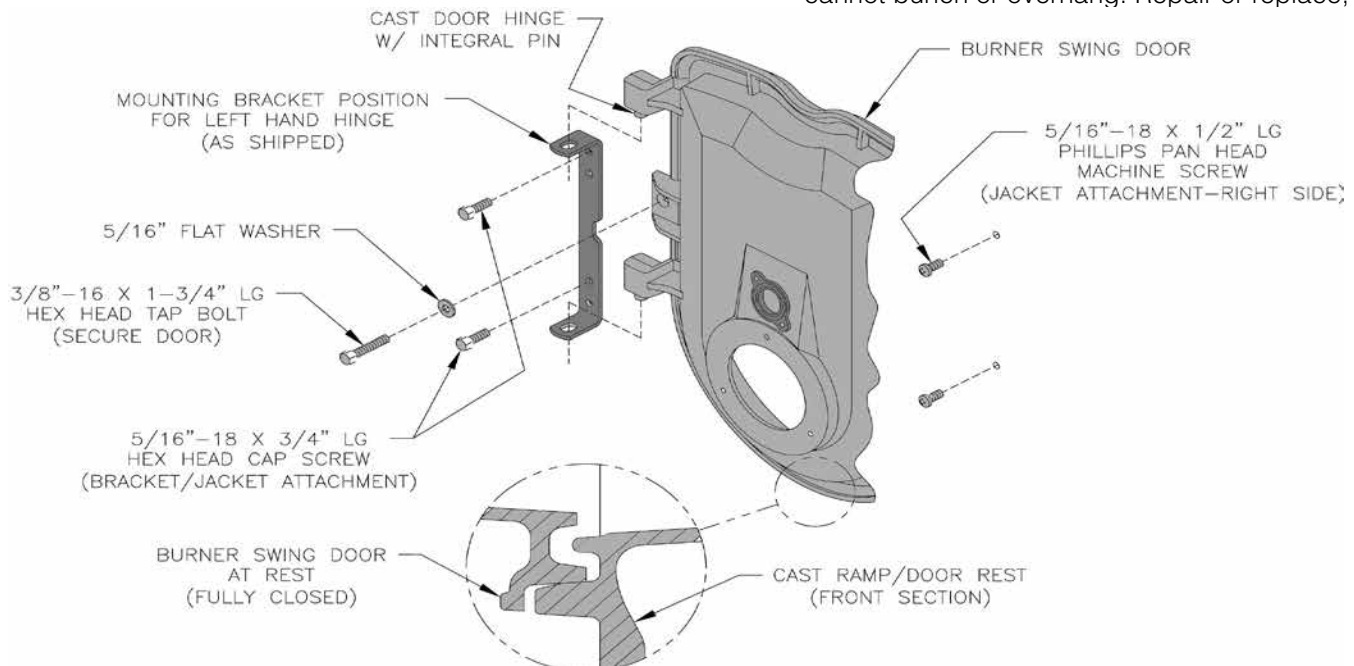

Figure 5A: Partial Front View - Burner Swing Door Mounted to Boiler - Fully Closed and Secured
Throughout this manual you will be instructed to open and close Burner Swing Door for various reasons. There is a proper and improper method of closing and securing the door opened for front jacket panel installation, inspection, cleaning or field service. Refer to Figures 5A, 5B, 5C and paragraphs D "Jacket Front Panel Installation", and, F "Closing/Securing Burner Swing Door" for details.
- b. Lift door upward into the build-in cast ramp/door rest (protruding from the bottom of the front section casting – see Figure 5A).